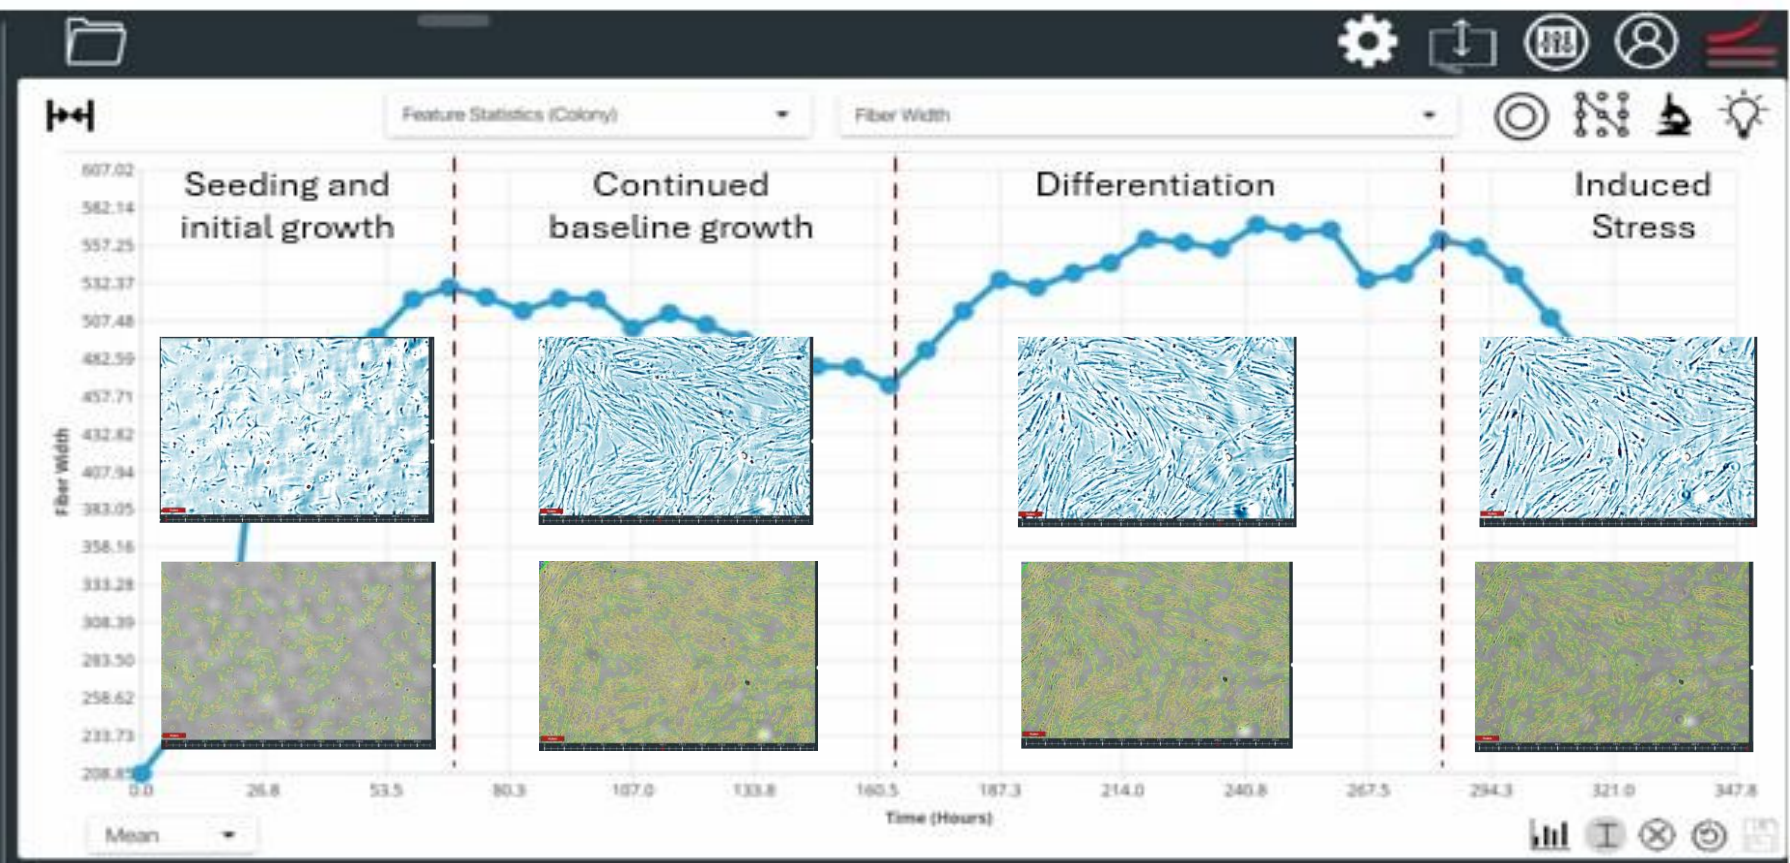

Fig. 4 Use of the morphological feature colony fibre width as an intrinsic bio marker to growth, differentiation and stress response
3) iPSC Culture, Differentiation, and Stress (fig.4, 5)